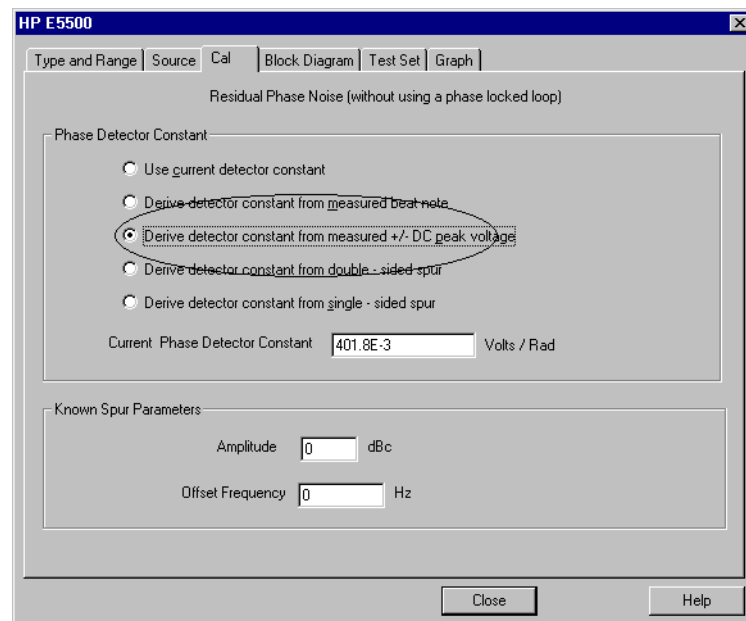

Figure 9-5 Select Constant in the Cal Tab
- 10 Select **Derive detector constant from measured +/- DC peak voltage** as the calibration method. See Figure 9-5.